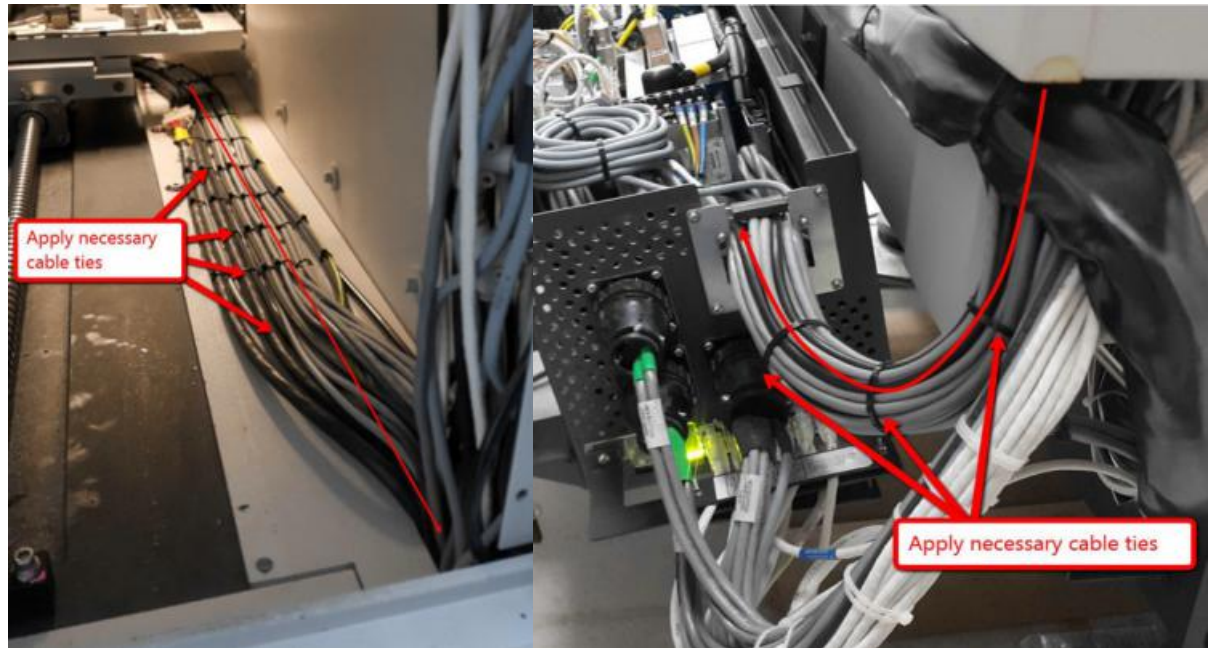

Figure 31
12. Route back X-Axis encoder cable to SSCA by following cable routing as shown in Figure 31.